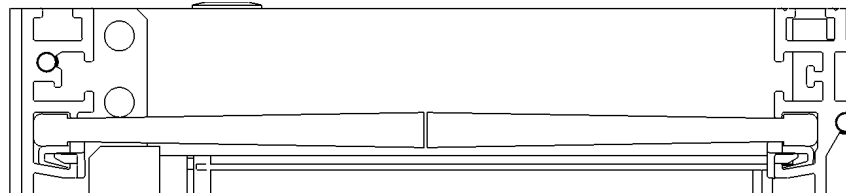

Fig.5
4. Follow instruction 1 to 3 for installing other half as shown in fig.5.